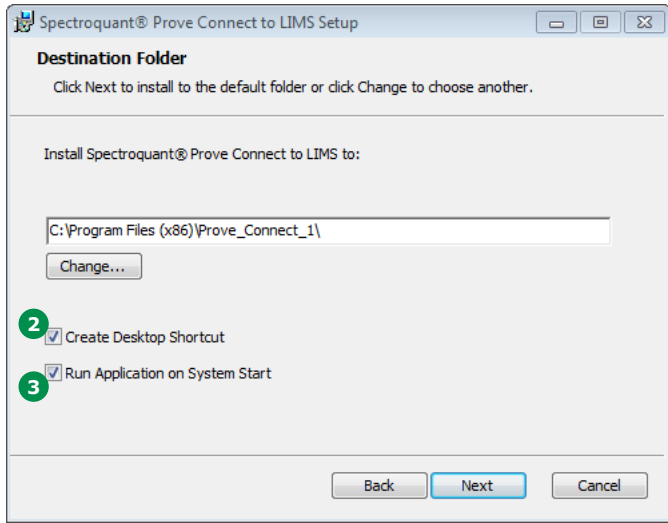

Figure 7 - Example for a non-predefined destination folder (Prove_Connect_1) for software installation
If the folder does not exist, the new directory will be created. After clicking "OK" the dialog window is closed, and the selected path is displayed in the destination folder screen (Figure 7).
2. Please check **2** (Figure 7), if you would like to create shortcuts on your desktop.
3. Please check **3** (Figure 7), if the application should be started automatically started with the System Start
If "Run Application on System Start" was selected during installation (Figure 7), Prove Connect will be started, when the user logs in to Windows.